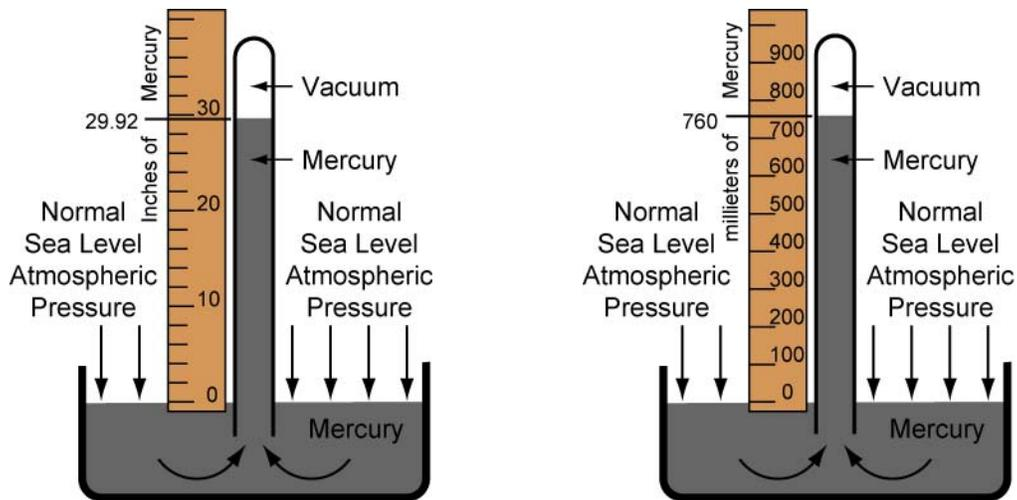

Figure 7: Mercury Barometer Standard Atmospheric Pressure at Sea Level is 29.92 Inches or 760 mm of Mercury
- **Inches or mm of mercury (“ Hg)** – a unit of measurement for pressure that is still widely used for barometric pressure in weather reports and aviation in the United States, but is seldom used elsewhere. See Figure 7 and the section regarding barometers later in this lesson.